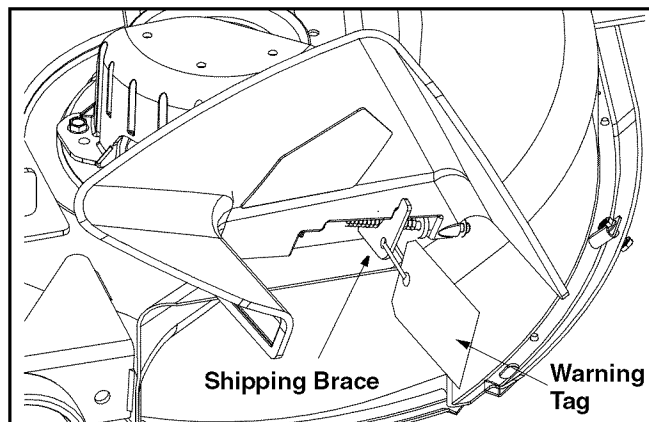

Figure 4
- Locate the shipping brace and warning tag found on the right side of the cutting deck. See Figure 4.